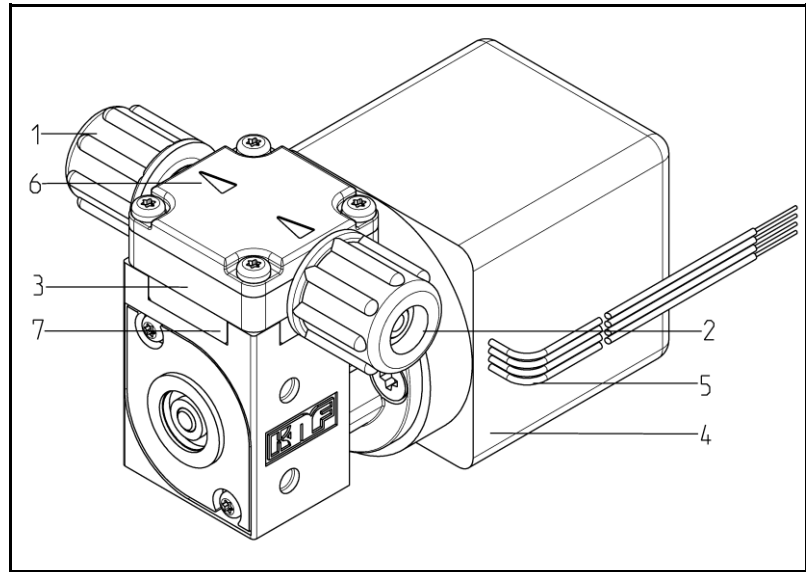

Fig. 1: Diaphragm liquid pump NF1.25
* Pump head (Fig. 1) comprises an intermediate plate and a connecting plate